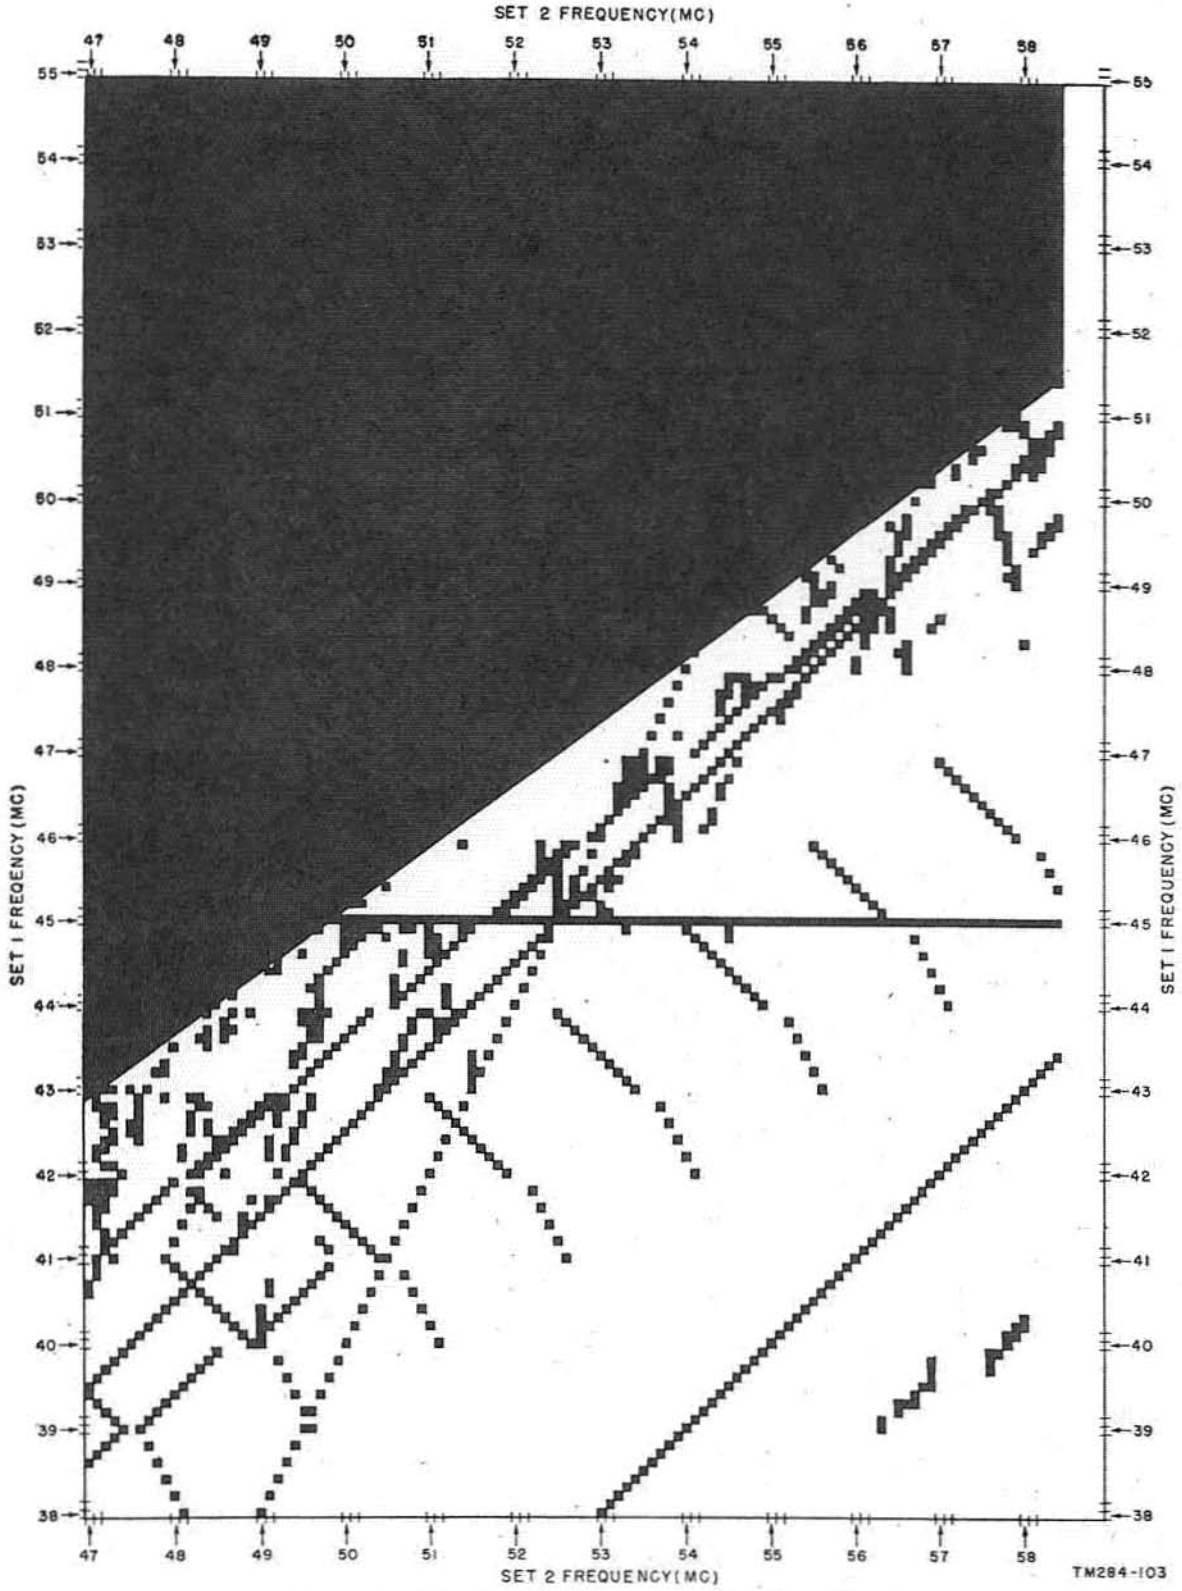

Figure 46. Set 1, Set 2 interference chart No. 1 for radio sets AN/GRC-7 and -8.
a. INTERFERENCE PROBLEMS. The tuning of Sets 1 and 2 involves not only the simple mechanics of control settings (pars. 68 and 69), but also a problem of frequency selection. Frequency selections must be made to avoid interference between the two receiver-transmitters. Interference charts (figs. 42 through 47) have been prepared to indicate those frequencies at which interference-free operation can be expected with Set 1 transmitting and Set 2 receiving or vice versa. Figures 42 and 43 pertain to Radio Sets AN/GRC-3 and -4 which utilize Receiver-Transmitter RT-66/s GRC as Set 1; figures 44 and 45 pertain to Radio Sets AN/GRC-5 and -6 which utilize Receiver-Transmitter RT-67/GRC as Set 1; and figures 46 and 47 pertain to Radio Sets AN/GRC-7 and -8 which utilize Receiver-Transmitter RT-68/GRC as Set 1.
AN/GRC-7 and -8.	fig. 46
AN/GRC-7 and -8.	figs. 46 and 47